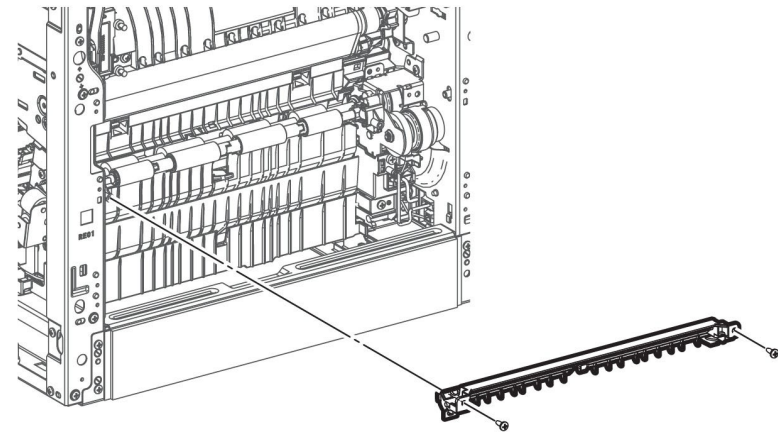

Figure 2 Remove the Upper Duplex Chute
5. Refer to Figure 2 to remove the two screws (silver, tapping, M3x8mm) attaching the Upper Duplex Chute and remove the chute.